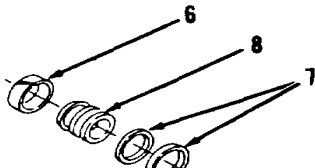

Figure 17-10.
10. Using seal expander, install new seal assembly (7) and ring (6) on piston (8, Figure 17-10).